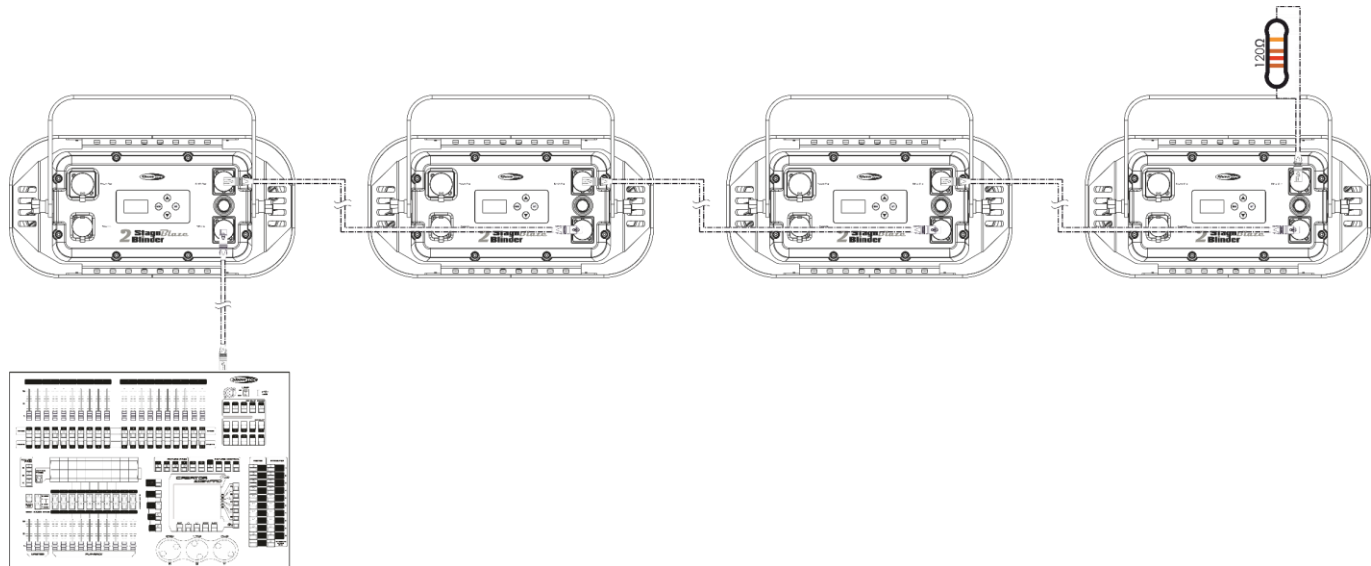

Fig. 04
- 05) Link the units as shown in fig. 04. Connect a DMX signal cable from the first unit's DMX "out" socket to the second unit's "in" socket. Repeat this process to link the second, third and fourth units.